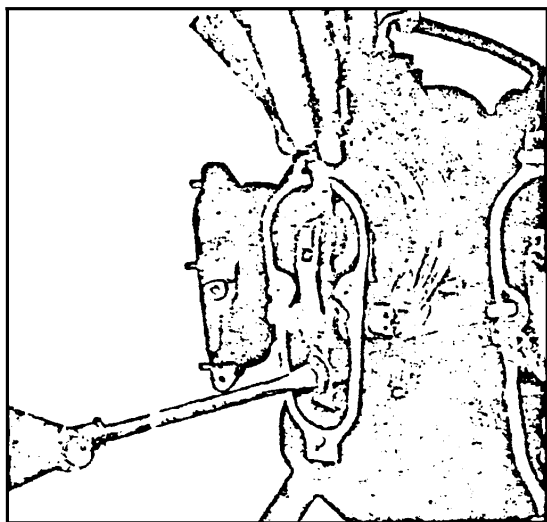

FIGURE 67—Adjusting Valve Clearance Adjusting Screw
**VALVE CLEARANCE** As soon as the engine is timed correctly, turn the crankshaft until the valves of No. 1 cylinder indicate that the piston of No. 1 cylinder is at top center at the beginning of the suction stroke. At this point both valves will be open. Turn the crankshaft through one complete revolution, insert a .010 inch (.254 mm.) clearance shim under the rocker arm roller and tighten the valve clearance adjusting screw until the shim is a snug fit between the roller and the valve stem. (Refer to figure 67.)